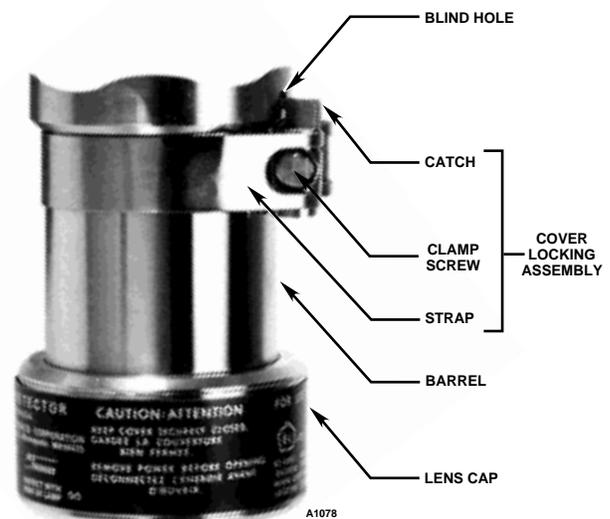

Figure 15—Cover Locking Assembly (Optional)
6. If the UV and/or IR sensor modules are already installed in the detector housing, proceed to step 12. If the sensors are not installed, remove the applicable sensor housings from the junction box cover (see Figure 12). If the detectors are equipped with a cover locking device (see Figure 15), loosen the clamp and disengage the "catch" from the blind hole. The tool required is a 5/32-inch hexagonal (Allen) wrench.
13. Check the O-rings on both sensor housings to be sure that they are in good condition and are fitted properly, then re-install the sensor housings on the junction box cover. (See the "Maintenance" section of this manual for information regarding care of O-rings.) The sensor housing with the large viewing window is for the UV detector and the sensor housing with the small window is for the IR detector. Hand tighten the sensor housings into the base until the O-rings are fully seated to maintain the explosion-proof and watertight integrity of the housing. If the unit is equipped with cover locking clamps, loosen the clamps sufficiently so that the clamp catches can be seated in the blind holes on the junction box cover. Fasten the clamps securely using a 5/32 inch hexagonal (Allen) wrench. (See Figure 15.)